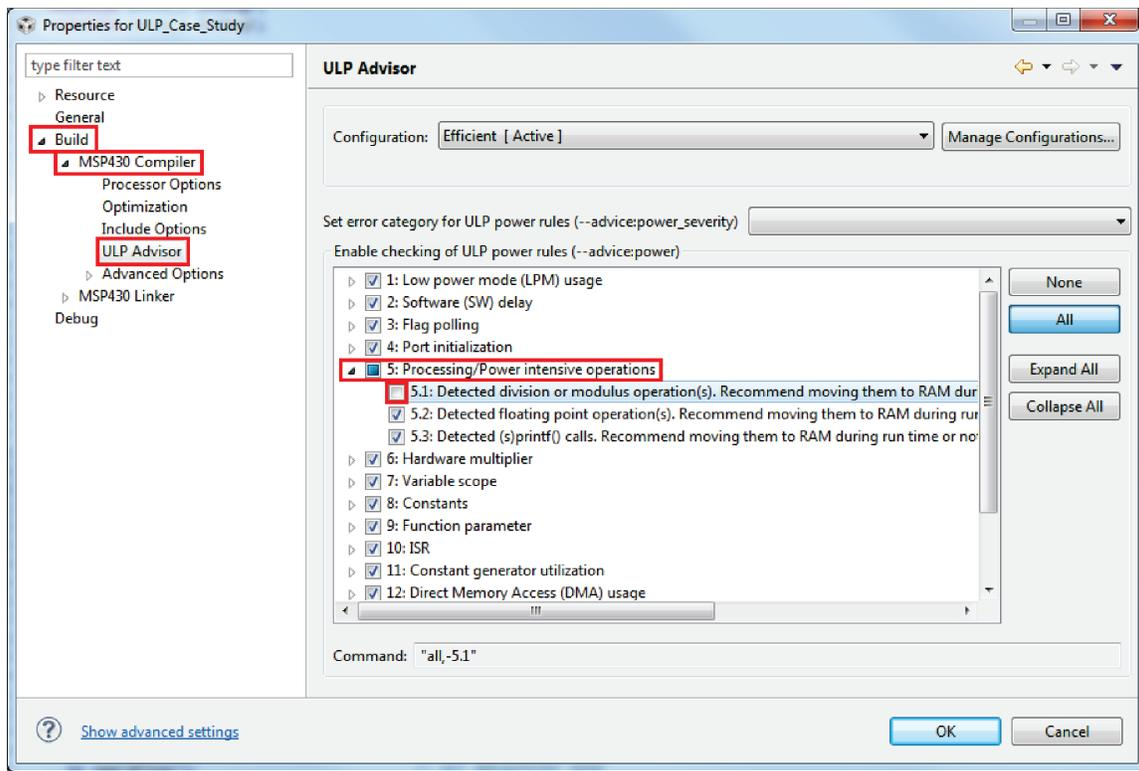

Figure 21. Hide ULP Advisor Rule 5.1
3. Uncheck rule 5.1 (Detected division or modulus operations) (see Figure 21).